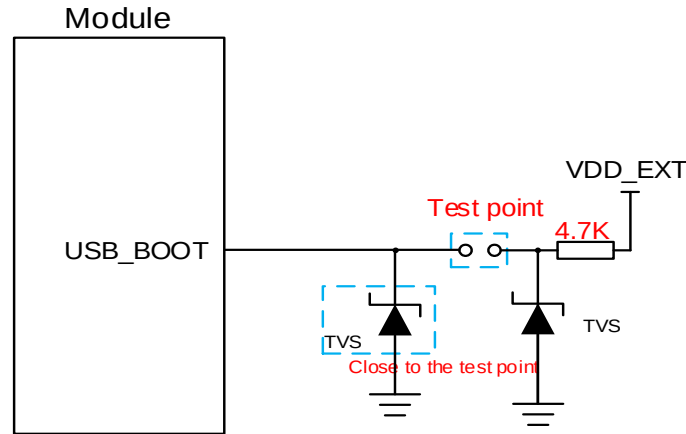

Figure 34: Reference Design of USB_BOOT Interface
2. When using MCU to control the module entering forced download mode, follow the above timing. It is not recommended to pull up USB_BOOT to VDD_EXT before VBAT powers up. Connecting the test points as shown in **Figure 34** can manually force the module into download mode.